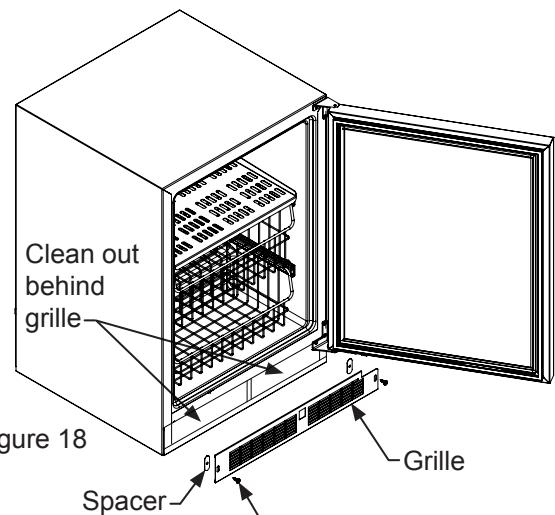

Figure 18
8. Remove the front toe-grille, (see Figure 18), and use a brush and vacuum to clean dirt and debris from beneath the unit.
9. Thoroughly clean the toe-grille and re-install on the unit. (See Figure 18).